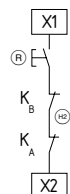

Fig. 9
**External reset button (with edge detection) (see Fig. 9)**